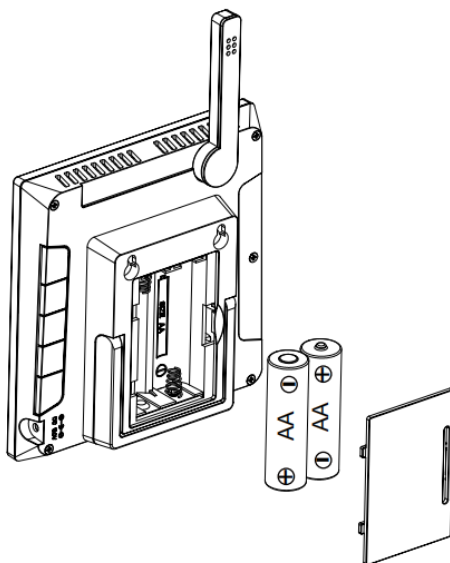

Figure 14: Battery installation for display console
Reference Figure 14.
- (1) Unfold the desk stand and place the console 5 to 10 feet away from the outdoor sensor.
- (2) Remove the battery door on the back of the console and insert 2 x AA good quality Alkaline or Lithium batteries per Figure 14.
- (3) Wait several minutes for the remote sensors to synchronize with the display console.
- (4) In order to prevent the display console's own temperature rising from affecting the accurate reading of temperature and humidity, the temperature and humidity sensor is placed at the antenna end, away from the station body. Orient the console antenna straight up for accurate indoor temperature and humidity reading.